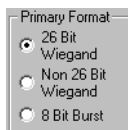

Figure 14-17: Enroll Cards - Primary Format Field
- In the “Primary Format” field, click on the radio button that corresponds to the format of the Primary ID (see Figure 14-17).